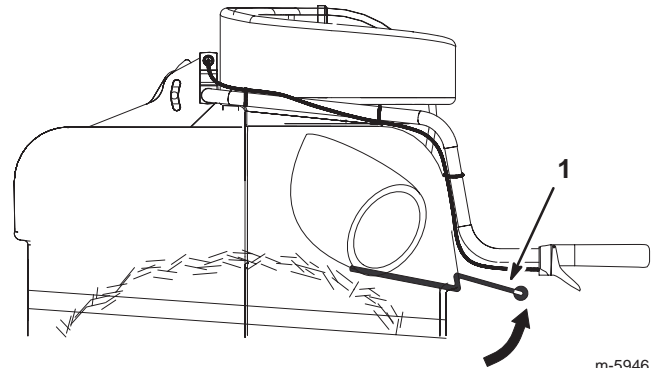

Figure 21
- A. Raise the gauge arm frequently (Fig. 21). If you feel resistance, it indicates the collector is full and needs to be emptied.